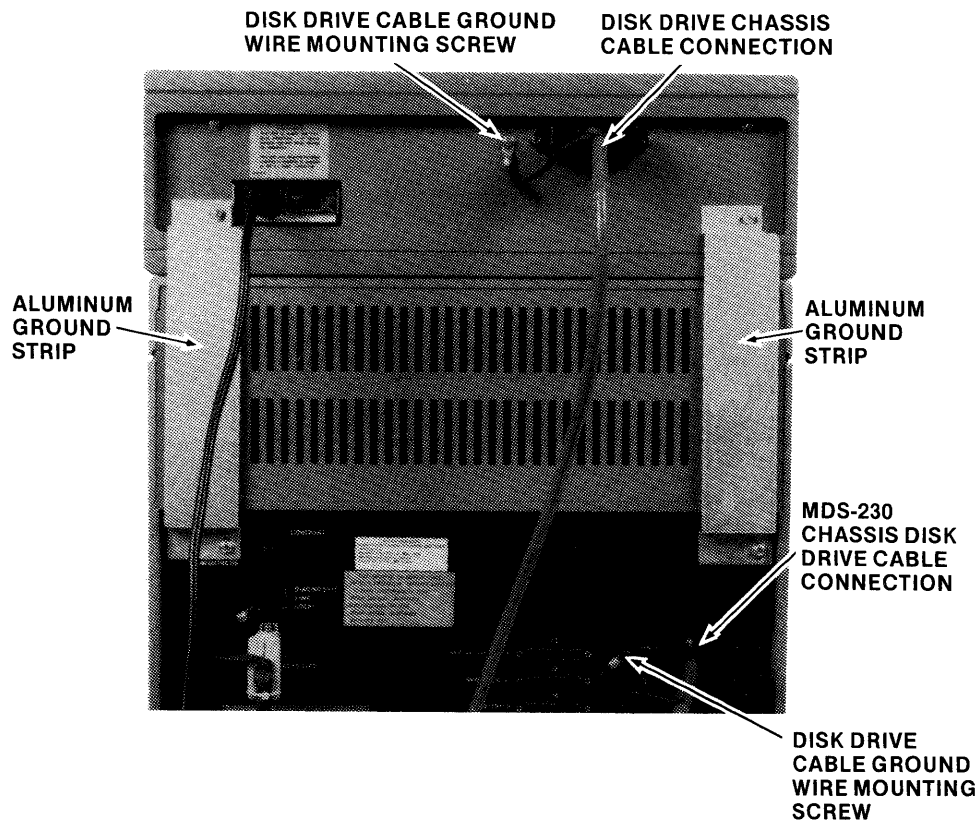

Figure 2-12. Flexible Disk Drive Installation
16. Refer to Figure 2-12. Unpack the disk drives and place on top of the Model 230 chassis. Fasten the disk drive cable to the connector on the rear panel of the disk drive chassis and connect the ground wire to the adjacent screw. Fasten the other end of the disk drive cable to connector J8 on the Model 230. Connect the ground wire to the screw adjacent to J8, and attach the two static ground strips to the rear chassis panel as shown in Figure 2-12.